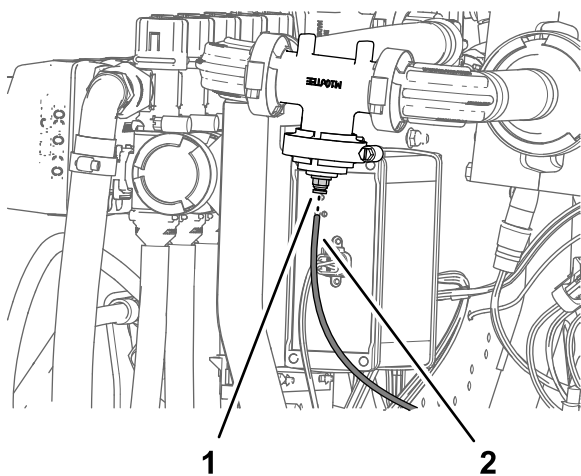

Figure 134
1. Align the end of the pressure-sense tube (plastic) for the pressure gauge in the dash with the locking collar for the tube coupler (Figure 134).
2. Insert the sense tube into the locking collar until the tube is fully seated (Figure 134).